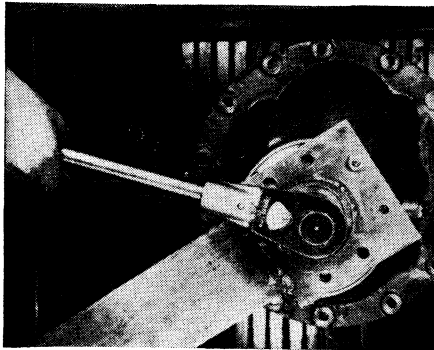

Fig. 77 Removing pinion nut
12. Hold flange or yoke with suitable tool, Fig. 77, and remove pinion shaft nut and washer.